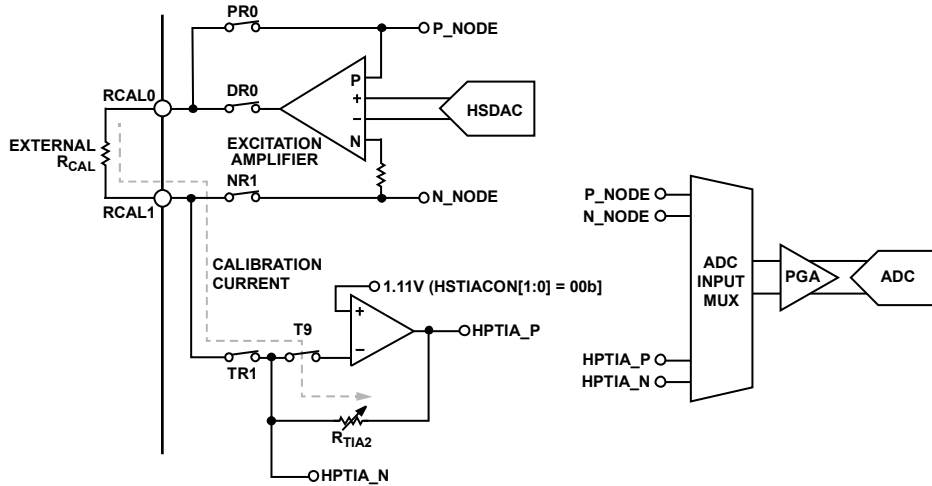
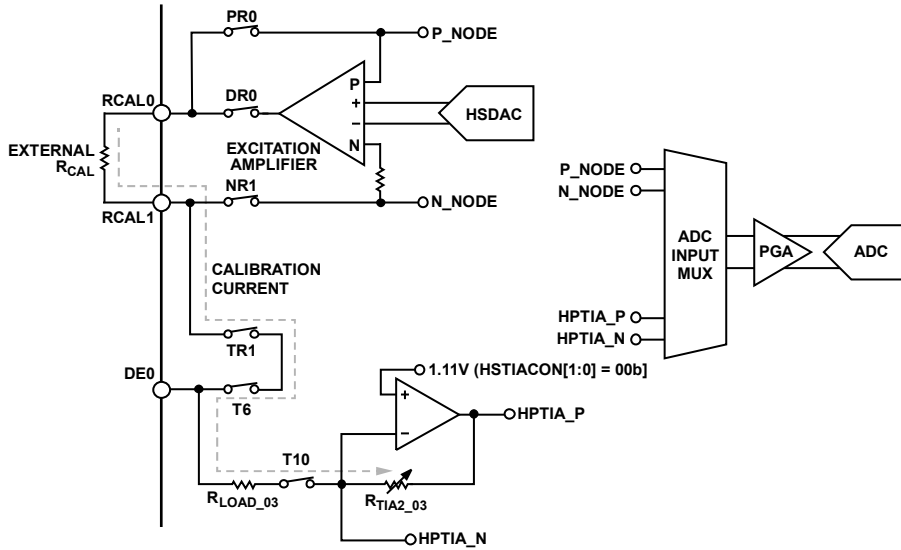
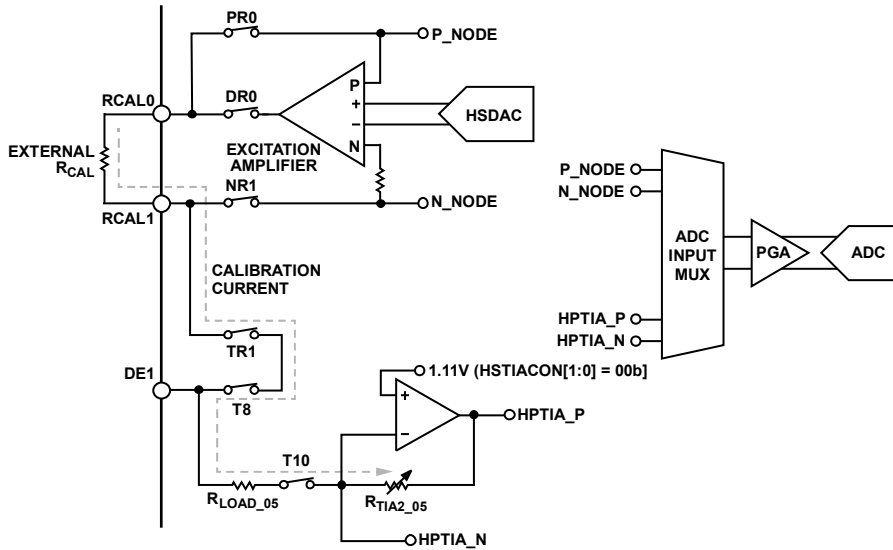

Figure 26. HS DAC, HSTIA, and Switch Matrix Settings for  $R_{TIA2}$  Calibration
Figure 27. HS DAC, HSTIA, and Switch Matrix Settings for  $R_{TIA2\_03}$  Calibration
Figure 28. HS DAC, HSTIA, and Switch Matrix Settings for  $R_{TIA2\_05}$  Calibration
Figure 26 shows the setup and switch settings that connect the HS DAC output to the external  $R_{CAL}$  resistor and the current flow into the HSTIA and  $R_{TIA2}$  gain resistor.
- The ADC  $HPTIA\_P$  input channel and  $HPTIA\_N$  input channel are measured for each of the three switch configurations shown in Figure 26, Figure 27, and Figure 28.